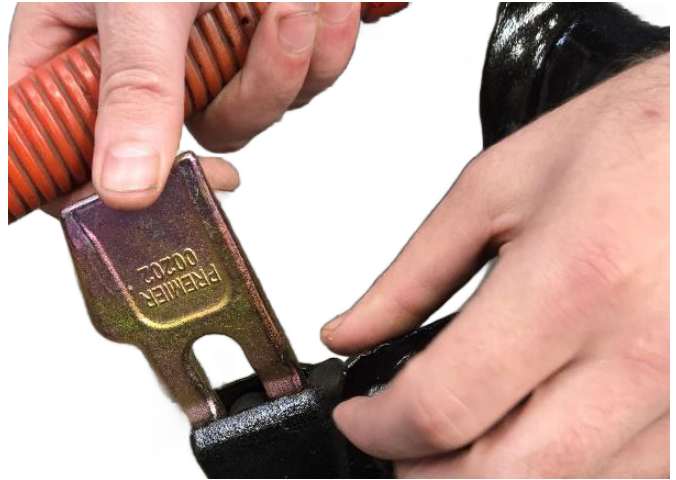

Figure 18
5. Place the tooth into the tooth holder, ensuring the tooth's cutting edge is facing the same direction as the pilot. See Figure 18.